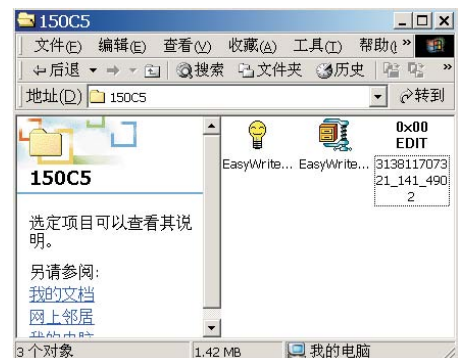

Fig. 6
- Step 5 : Copy the 313811707321\_141\_4902.hex to D:\150C5 shown As Fig. 6.